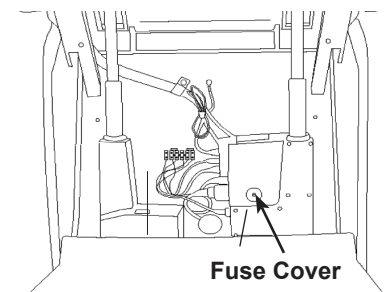

Figure 45.
3. Locate fuse cover on control box. (See Figure 45.)